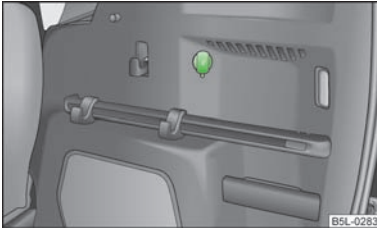

Fig. 70
In the luggage compartment - » Fig. 70.
- Open the socket cover » Fig. 70.